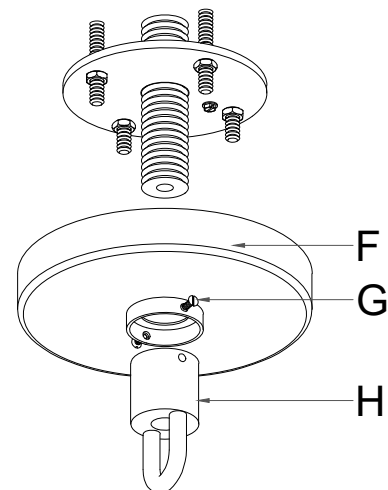

FIGURE 02
3. Place the Main Canopy(F) over the Collar loop(H) and Nipple(E) all the way to the ceiling and tighten by using (2pcs) sets screw(G) on the Collar loop(H). (**see fig. 02**)